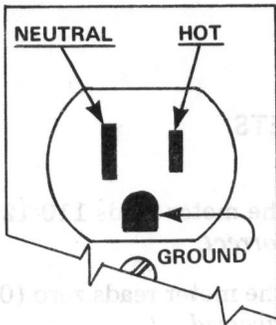

Fig. 1
2. Connect the positive (+) test lead to the short (hot) slot in the receptacle. (See Fig. 1 and 2.)
b. If the meter reads zero (0) volts, *polarity is reversed.*
2.02 Retain VOM Selector switch to a range greater than 150 volts ac. Connect the positive (+) test lead to the long (neutral) slot in the receptacle. (See Fig. 1 and 3.) If the meter reads zero (0), the polarity is correct.
3. Reconnect the positive (+) test lead to the long (neutral) slot in the receptacle. (See Fig. 1 and 3.)